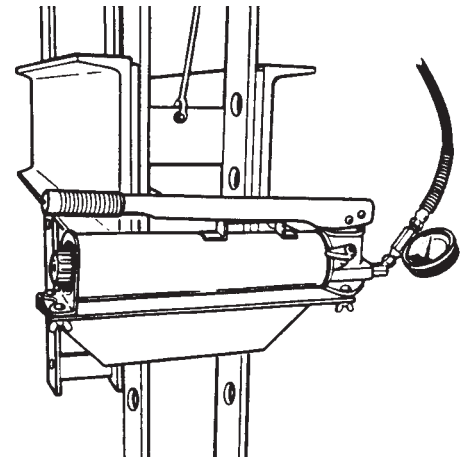

Figure 1
2. Using the fasteners noted on the parts list, attach the pump to the pump mounting bracket. See Figures 1, 2, & 3.